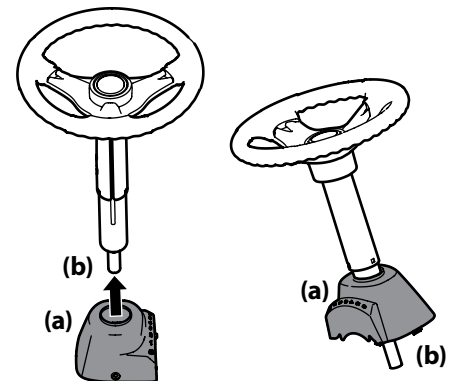

Figure 2-2
- Slide the pedestal cap (a) onto the steering shaft (b) so that when the steering shaft (b) is installed on the riding mower, the pedestal cap (a) will be upright as shown in Figure 2-2.